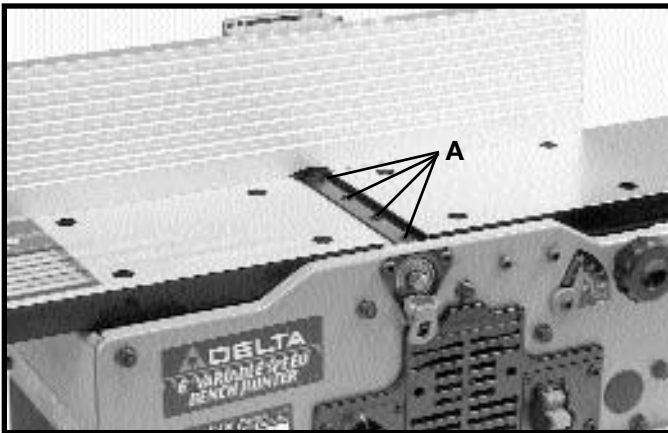
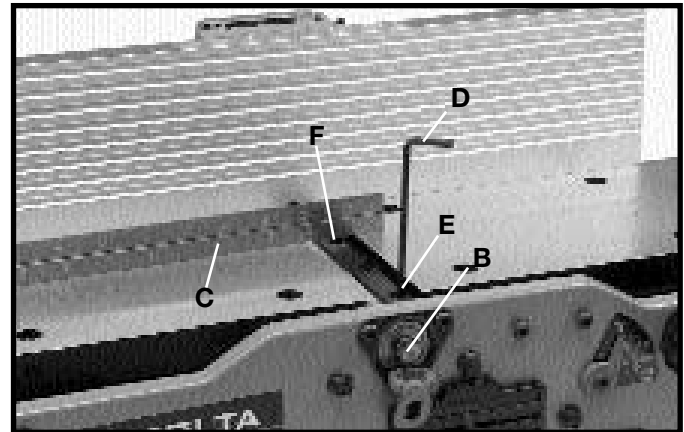
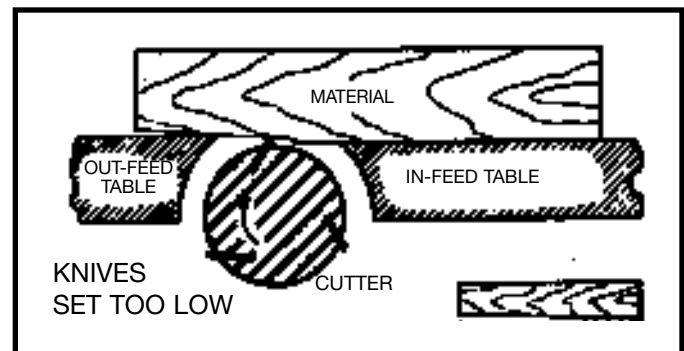

Fig. 30
Fig. 31
Fig. 32
2. Rotate cutterhead and loosen four screws (A) Fig. 30. **NOTE:** Do not overly loosen the screws (A). Loosen one half turn or only enough so knife can slide between locking plate and cutterhead.
3. Rotate cutterhead and engage cutterhead lock (B) Fig. 31, on cutterhead shaft as shown. This will position knives for proper adjustment to the outfeed table.
4. Place a straight edge (C) Fig. 31, on the outfeed table extending out over the knife as shown. Using wrench (D) supplied, turn screw (E) until knife just touches straight edge. Adjust knife at far end of cutterhead in the same manner turning screw (F). Tighten four screws (A) Fig. 30, after adjustment is made.
5. Adjust remaining knife in the same manner and **MAKE SURE CUTTERHEAD LOCK (B) IS DISENGAGED AFTER ADJUSTMENT IS COMPLETED AND REPLACE CUTTERHEAD GUARD.**
7. If the knives are set too low, the result will be as shown in Fig. 32, and the finished surface will be curved.